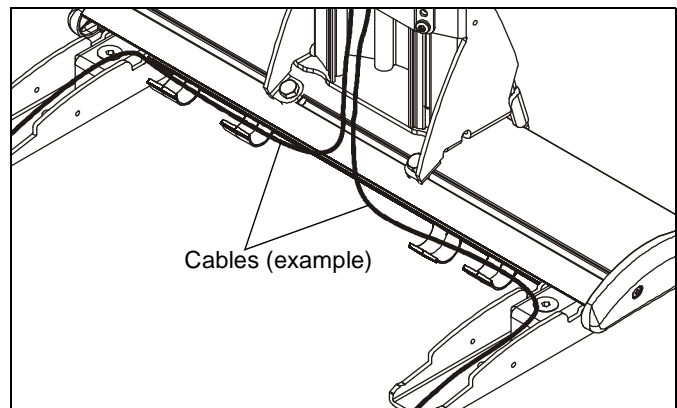

Figure 56
6. Thread cable up wall bracket channel and into opened cable clips. (See Figure 56) **Proceed to Step 8**